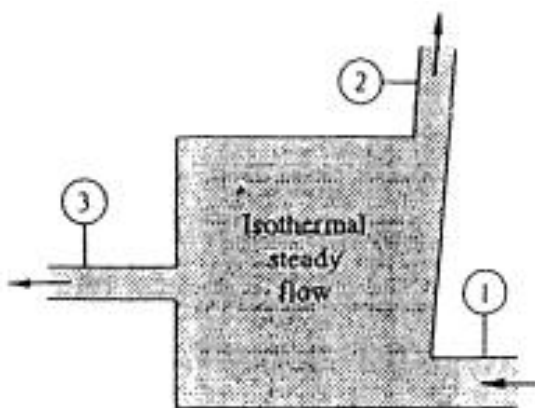

Figure 2
b) Given is steady isothermal flow of water at 20°C through the device in Fig.2. Heat-transfer, gravity, and temperature effects are negligible. Known data are $D_1 = 9$ cm, $Q_1 = 220$ m³/h, $p_1 = 150$ kPa, $D_2 = 7$ cm, $Q_2 = 100$ m³/h, $p_2 = 225$ kPa, $D_3 = 4$ cm, and $p_3 = 265$ kPa. Compute the rate of shaft work done for this device and its direction.